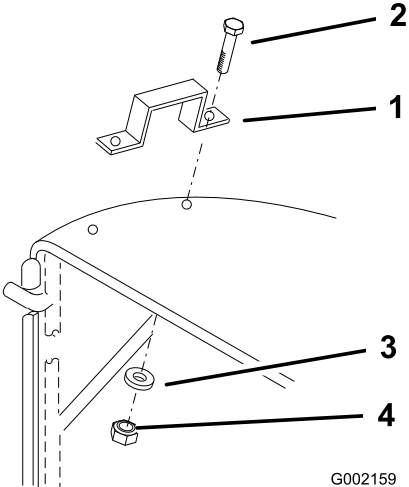

Figure 5
- Push 2 bolts (1/4 x 1 inch) through each handle and the fabric from the outside, and secure them with 4 washers (1/4 inch), and locknuts (1/4 inch) as shown in Figure 5.